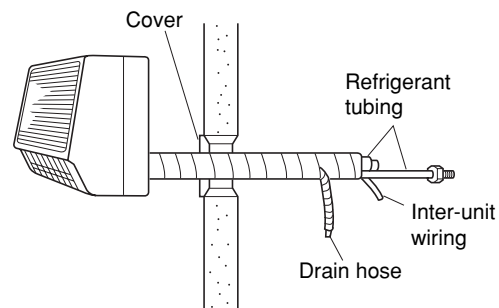
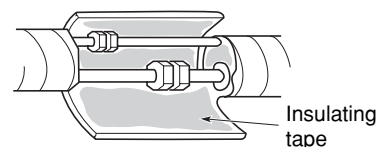

Fig. 3-34
Fig. 3-35
- (1) Shape the refrigerant tubing so that it can easily go into the hole. (Fig. 3-34)
- (2) Push the wiring, refrigerant tubing and drain hose through the hole in the wall. Adjust the indoor unit so it is securely seated on the wall fixture.
- (3) Carefully bend the tubing (if necessary) to run along the wall in the direction of the outdoor unit and then insulate to the end of the fittings. The drain hose should come straight down the wall to a point where water runoff will not stain the wall.
- (4) Connect the refrigerant tubing to the outdoor unit. (After performing a leak test on the connection, insulate it with insulating tape. (Fig. 3-35))